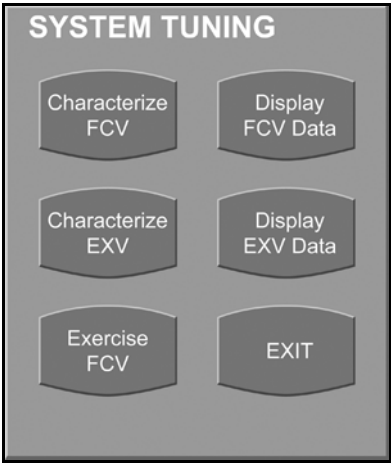

Figure 7.31
3. After entering the password, select EXERCISE FCV icon (Figure 7.31).